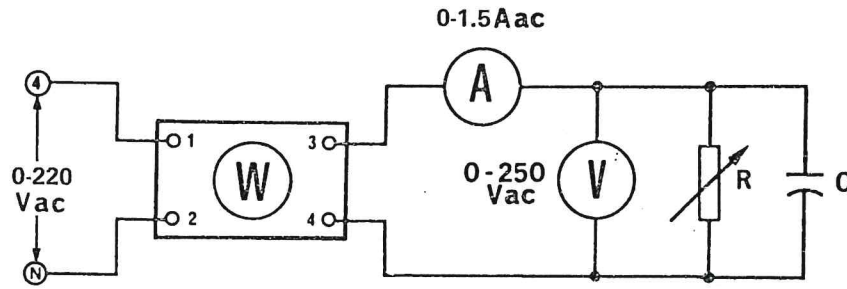

Fig. 15-6
□ 12. Repeat *Procedure 9* using the resistance and capacitance modules in parallel as shown in *Fig. 15-6*. Connect all sections in parallel and close all switches.